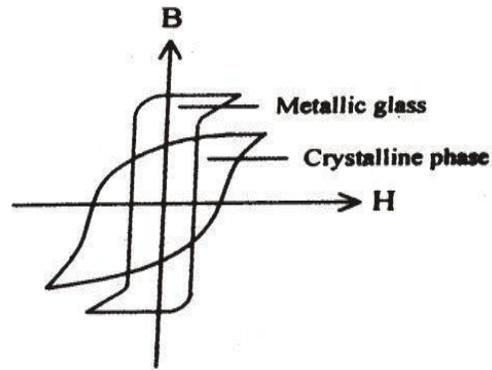

Fig:4.1.2- Hysteresis loop
- b. They have very narrow hysteresis loop as shown in fig 4.1.2 .In Fig the hysteresis loop of the metal alloy in crystalline phase is also given for reference.